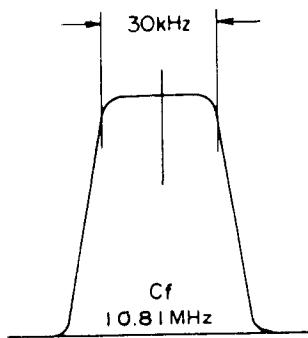

Figure 2
- d) Adjust T₁₀₀₃ and T₁₀₀₄ until the scope pattern illustrated in Fig. 2 is obtained.